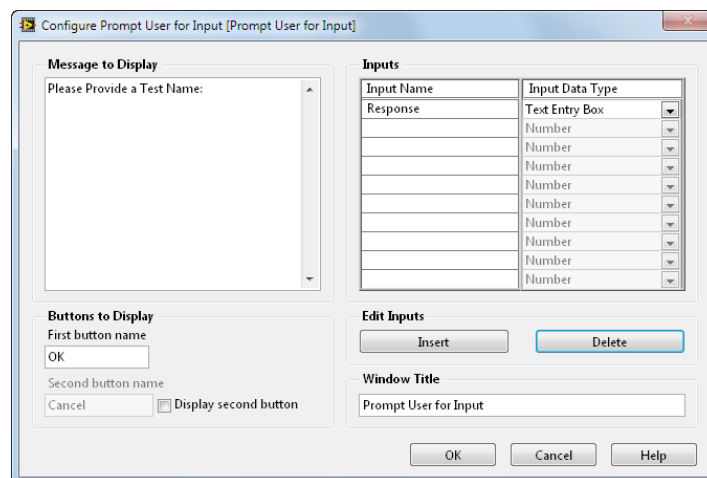

Figure 23. The Prompt User for Input Express VI is a quick and easy way to get feedback from the user.
- h. Wire the pink **Response** output of the Prompt User for Input Express VI through the while loop to the pink **Comment** input of the Write to Measurement File Express VI as shown in Figure 23.
- i. Wire the yellow **Error Out** output of the Prompt User for Input Express VI to the **Error In** input terminal of the DAQmx Start Task.vi as shown in Figure 23.